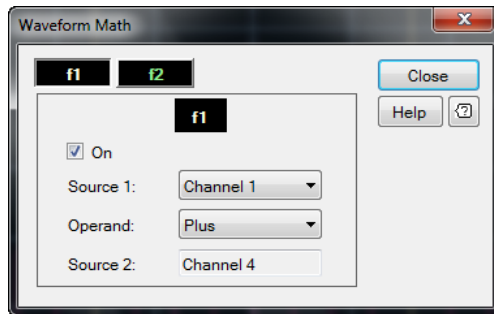

Figure 2-51 Waveform Math dialog
- 2 The Waveform Math dialog is displayed as shown in Figure 2-51 to allow you to select the channels and the type of math operation to perform. Select the **On** check box to display the desired math operation.